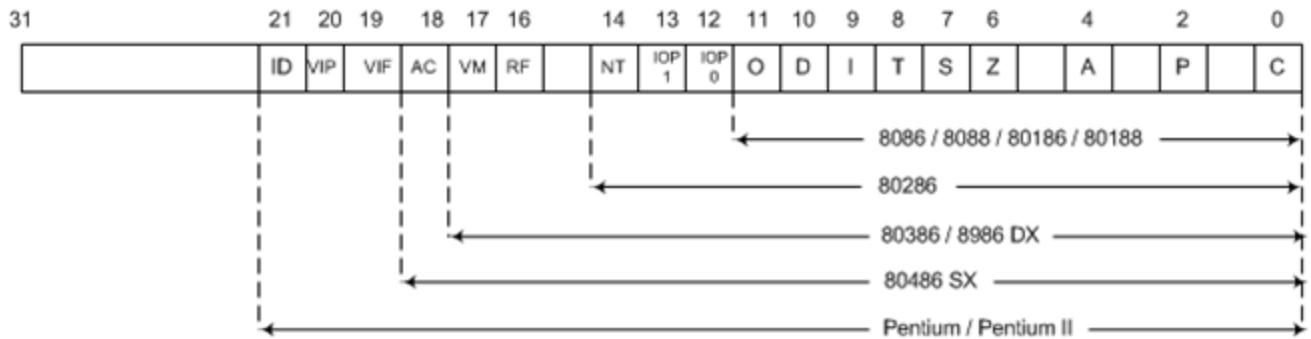

Figure 2-2 : The EFLAGS register.
**EFlags:** EFLAGS indicate the condition of the microprocessor and control its operation. Figure 2-2 shows the flag registers of all versions of the microprocessor. The 8086-80286 contain a FLAG register (16 bits) and the 80386 and above contain an EFLAG register (32-bit extended flag register).